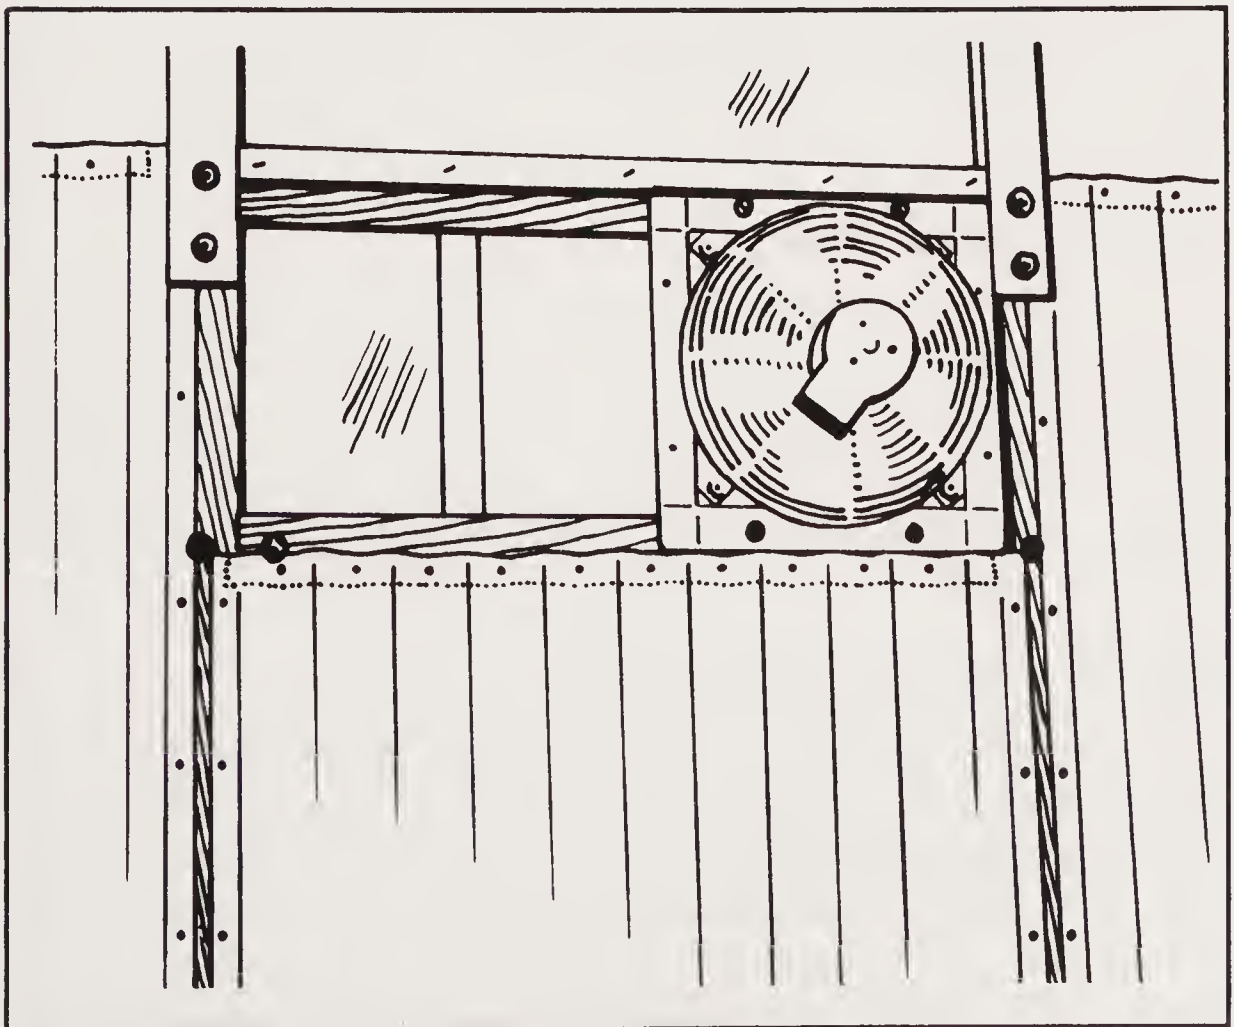

Fig. 2-46. Vent fan detail (courtesy of Peter Reimuller Co.).
**Exhaust Fan.** Place the fan in the rear vent opening, flush to one side. Fasten the fan in this position with screws (Fig. 2-46). Cut both the fiberglass vents to 9" wide (scribe with a sharp knife and fold) to allow ventilation when the fan is not in use.